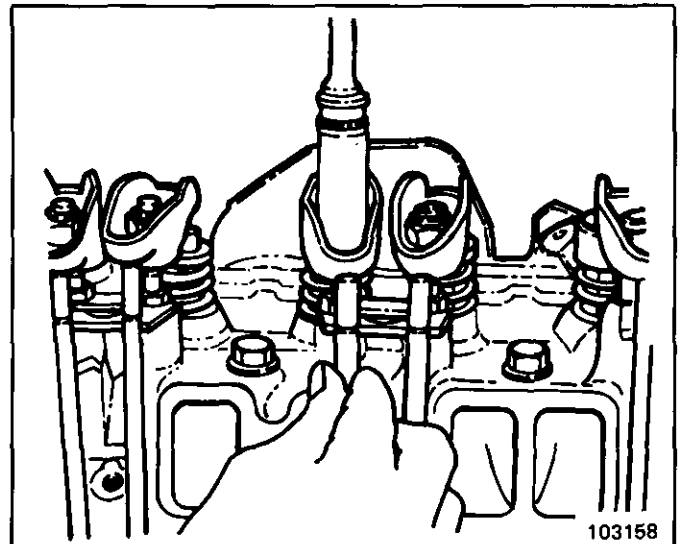

Figure 12 Adjusting Valve Lash
- Back out adjusting nut until lash is felt at the push rod, then turn in adjusting nut until all lash is removed (Figure 12). (This can be determined by rotating push rod while turning adjusting nut). When lash has been removed, turn adjusting nut in 1 1/2 additional turns (to center lifter plunger).